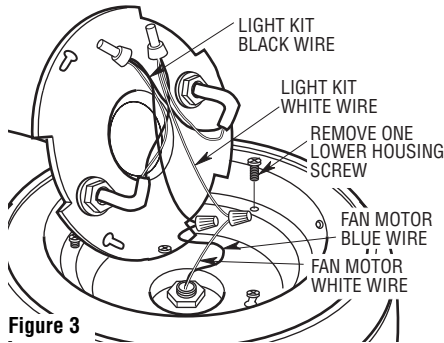

Figure 3
- 7. Connect the white wire from the ceiling fan to the white wire of the light kit plate (Figure 3). Connect the blue wire from the ceiling fan to the black wire of the light kit plate. Use wire connectors (previously removed) to make connections.
- 8. Remove one of the three screws in the lower housing and loosen the remaining two screws (Figure 3).